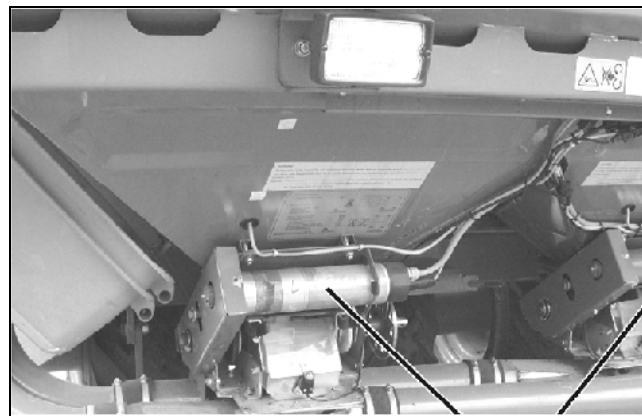

Fig. 77
- Electric full metering with an electric motor as direct drive (Fig. 77).